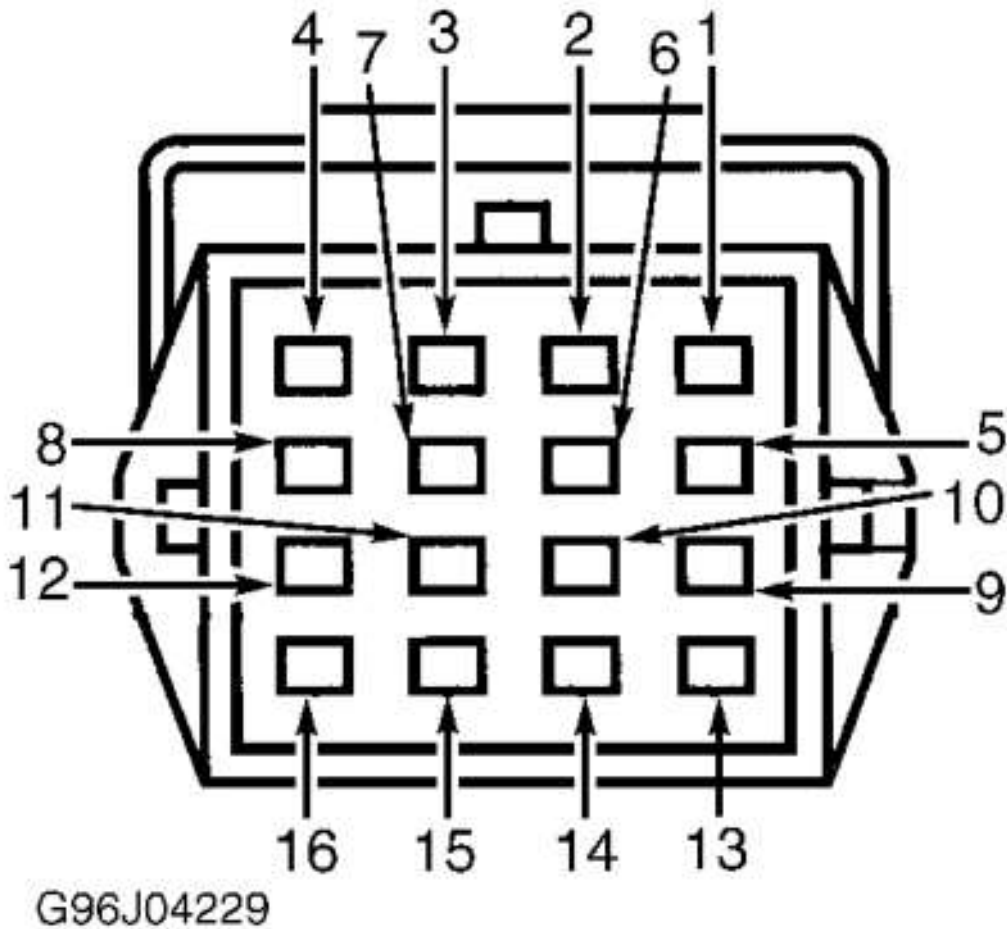

Fig. 7: Identifying Transmission Harness Connector
2) Check Electrical Signal Operation Disconnect transmission harness connector. Inspect condition of connector and repair as needed. Using DVOM (20-volt scale), connect positive lead to transmission vehicle harness connector terminal No. 10 (VPWR). See **Fig. 7**. Connect negative lead to appropriate solenoid circuit. Depress and release throttle to cycle solenoid output. If voltage changes at least .5 volts, go to step 5). If voltage is unaffected, go to next step.
3) Check Continuity Of Solenoid Signal & VPWR Harness Circuits Ensure ignition is off. Disconnect PCM connector, and inspect it for damaged pins, corrosion and loose wires. Repair as necessary. Install breakout box, leaving PCM disconnected. On 1995 Explorer, measure and record resistance between breakout box test pin No. 51, 52 or 55 and corresponding solenoid signal pin at transmission harness connector. Measure and record resistance between test pins No. 37 and 57 and transmission harness connector terminal No. 10 (VPWR). On all other models, measure and record resistance between breakout box test pins No. 1, 27 or 53 and corresponding solenoid signal pin at transmission harness connector. See **Fig. 7**. Measure and record resistance between test pins No. 71 and 97 and transmission harness connector terminal No. 10 (VPWR). If any resistance is greater than 5 ohms, repair open circuit. Connect all components. Disconnect breakout box and repeat QUICK TEST. If each resistance is 5 ohms or less, go to next step.
2) Check Electrical Signal Operation Ensure ignition is off. Disconnect transmission connector. Using DVOM, connect positive lead to transmission harness connector terminal No. 4 and negative lead to terminal No. 8. See **Fig. 7**. Turn ignition on. If voltage is 4.75-5.25 volts, go to step 5). If voltage is not within specification, go to next step.
3) Check Continuity Of TFT Signal Return (SIG RTN) Circuits Turn ignition off. Disconnect PCM connector, and inspect it for damaged pins, corrosion and loose wires. Repair as necessary. Install breakout box, leaving PCM disconnected. On 1995 Explorer models, measure and record resistance between breakout box test pin No. 49 and transmission harness connector terminal No. 4. Measure and record resistance between test pin No. 46 and transmission harness connector terminal No. 8. On all other models, measure and record resistance between breakout box test pin No. 37 and transmission harness connector terminal No. 4. See **Fig. 7**. Measure and record resistance between test pin No. 91 and transmission harness connector terminal No. 8. If each resistance is less than 5 ohms, go to next step. If any resistance is more than 5 ohms, repair open circuit. Connect all components. Disconnect breakout box. Erase all trouble codes. See CLEARING CODES. Repeat QUICK TEST.
2) Check Electrical Signal Operation Disconnect transmission harness connector. Inspect condition of connector and repair as needed. Using DVOM (20-volt scale), connect positive lead to transmission harness connector terminal No. 1 (VPWR). See **Fig. 7**. Connect negative lead to terminal No. 5 (TCC). Depress and release throttle to cycle solenoid output. If voltage changes at least .5 volts, go to step 5). If voltage is unaffected, go to next step.
3) Check Continuity Of Solenoid Signal & VPWR Harness Circuits Ensure ignition is off. Disconnect PCM connector, and inspect it for damaged pins, corrosion and loose wires. Repair as necessary. Install breakout box, leaving PCM disconnected. On 1995 Explorer models, measure and record resistance between test pins No. 37 and 57 and transmission harness connector terminal No. 1 (VPWR). Measure and record resistance between breakout box test pin No. 53 and transmission harness connector terminal No. 5 (TCC). See **Fig. 7**. On all other models, measure and record resistance between test pins No. 71 and 97 and transmission harness connector terminal No. 1 (VPWR). Measure and record resistance between breakout box test pin No. 54 and transmission harness connector terminal No. 5 (TCC). If any resistance is greater than 5 ohms, repair open circuit. Connect all components. Disconnect breakout box and repeat QUICK TEST. If each resistance is 5 ohms or less, go to next step.